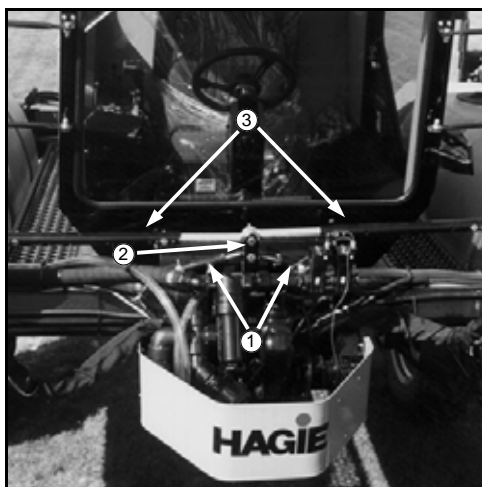

FIG 5.25
The full-time power steering system consists of a hydraulic steering motor (mounted on the end of the steering shaft) which is connected to a pair of double-action steering cylinders (fig. 5.25, item 1) mounted on a steering pivot (fig. 5.25, item 2) which oscillates a pair of tie rods (fig. 5.25, item 3) going to each steering leg. This system is powered by one of the hydraulic dual gear pumps driven by the sprayer's engine. Since these gear pumps are sensitive to engine RPM (the higher the RPM the higher the oil flow), it is best to always operate the sprayer at full recommended RPM to ensure maximum steering responsiveness.